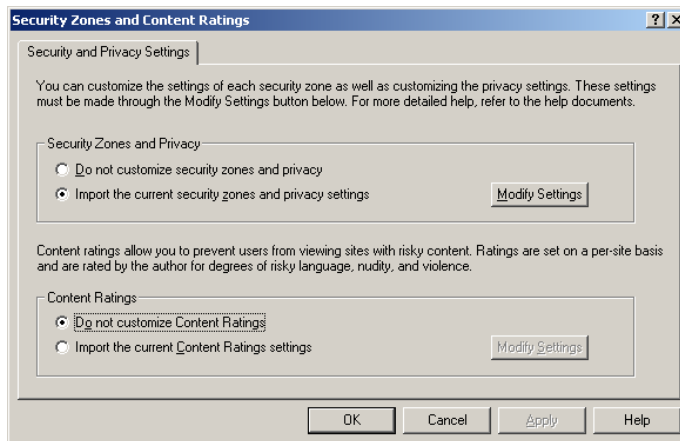

Figure 7. Security Zones and Content Ratings Dialog
to open the Security Zones and Content Ratings dialog (Figure 7).
15. Click **Continue** in the Internet Explorer Enhanced Security Configuration dialog to close the dialog and return to the Security Zones and Content Ratings dialog (Figure 7).
6. Click **Continue** in the Internet Explorer Enhanced Security Configuration dialog to close the dialog and return to the Security Zones and Content Ratings dialog (Figure 7).